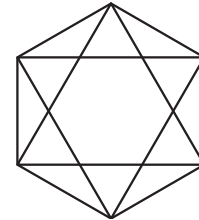

Fig. 5-14
3. Create the object shown in Fig. 5-14 by first drawing a six-sided polygon with the **POLYGON** command. Then draw the six-pointed star using the **LINE** command. Save the drawing as **prb5-3.dwg**.